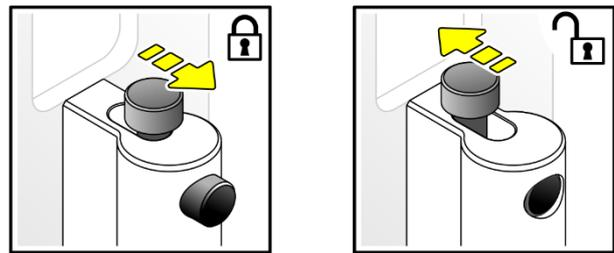

Figure 19. Locking mechanism on KNV Line Floorstand and Brackets
- See Figure 19. Push both locking knobs in, towards the fixture, to lock.
2. See Figure 19 on page 35. Move the mechanical connector locking knobs on both sides of the Floorstand to the Unlocked position.
4. See Figure 19. Push the locking knobs on both sides of the Floorstand towards the fixture into the Locked position. The locks snap into place under spring pressure.
2. See Figure 19 on page 35. Push the locking knobs on both of the Bracket's connector profiles **C** to the Unlocked position.
4. Push the locking knobs on both sides of the Bracket towards the fixture into the Locked position (see Figure 19 on page 35). The locks snap into place under spring pressure. Check that the Bracket is securely locked to the fixture on both sides.